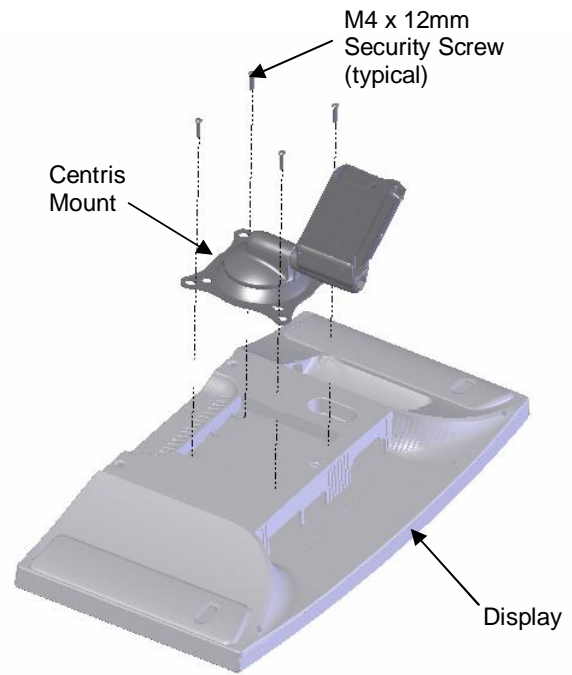

Figure 2. Flushed Mount
3. Install two M4 x 12mm security screws (60) into the top mounting holes on the display (see Figure 2).
4. Repeat Steps 2 and 3 to install the two remaining M4 x 12mm security screws (60) into the bottom mounting holes on the display.
3. Install two M4 x 20mm security screws (70) and two spacers into the top mounting holes on the display (see Figure 2).
4. Repeat Steps 2 and 3 to install the two remaining M4 x 20mm security screws (70) into the bottom mounting holes on the display.